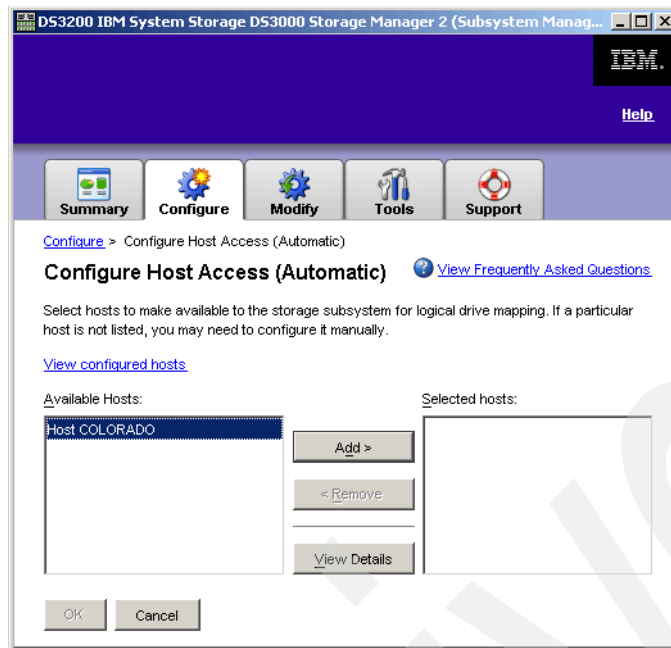

Figure 16-10 Configure Host Access (Automatic)
2. As seen in Figure 16-10, the task correctly identified our host server named COLORADO and placed it in the Available Hosts list.